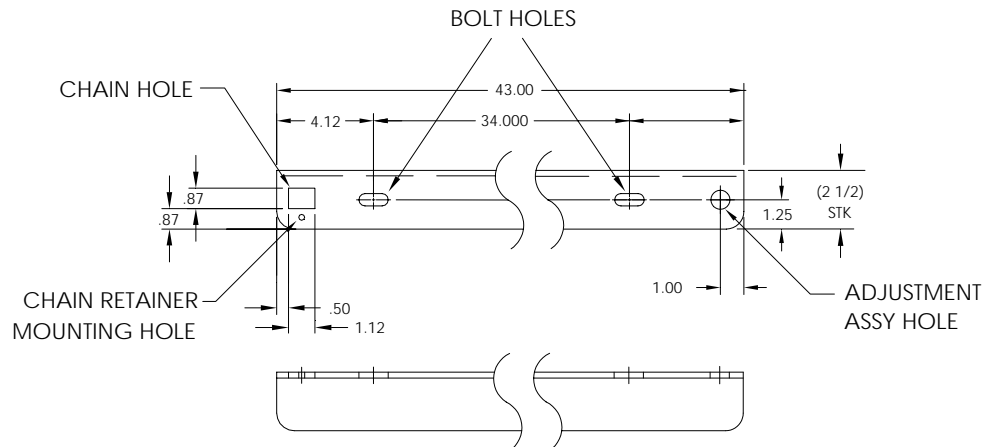

Figure 5 Mounting Brackets
- 1) Set two pieces of angle iron (see Figure 5) on bottom of upside down enclosure, being sure the side with the holes is facing the bottom of the enclosure and the solid sides of the angle iron are facing each other. Angle iron should be spaced so that the diameter of the pipe will fit in between.